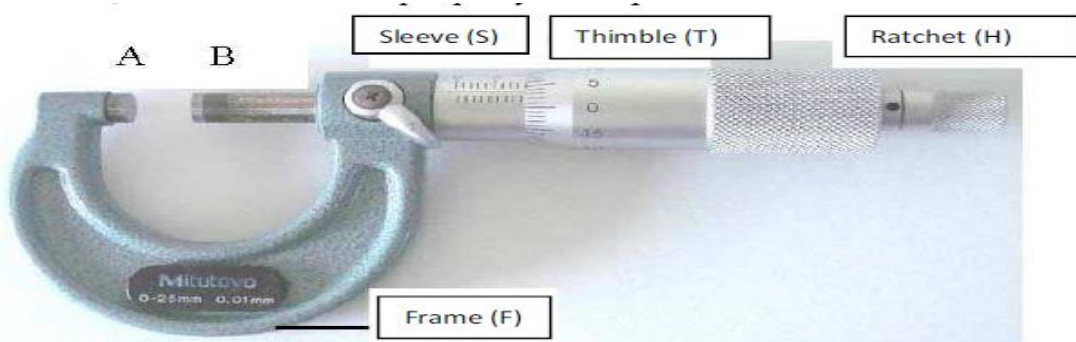

Figure 4
Figure 4 shows a micrometer screw, where A is an anvil fixed to the frame (F), and the spindle (B) channels through F and the sleeve (S) to connect to a revolution thimble (T) and a ratchet (H). S is marked with precise divisions, and the periphery of T is graduated